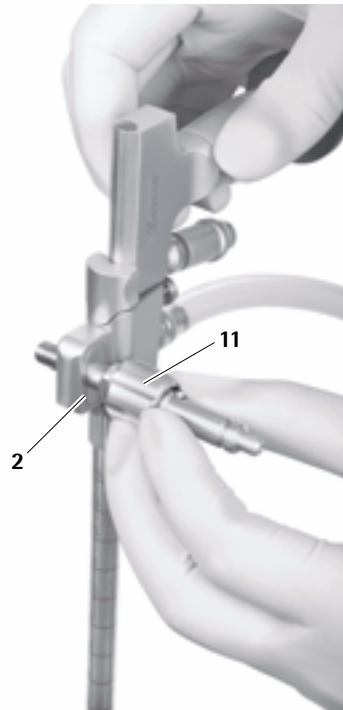

Fig. 18
- Insert the holding arm adapter **11** laterally into the hole (either right or left), until the flange engages in the appropriate groove **2** that secures the holding arm in place, see Fig. 18.